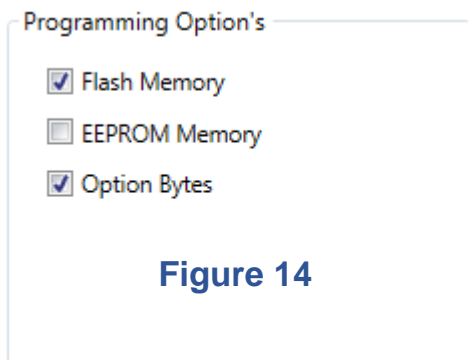

Figure 14
- For Example in Fig 14 EEPROM Memory is not selected so it will not be program in Chip.